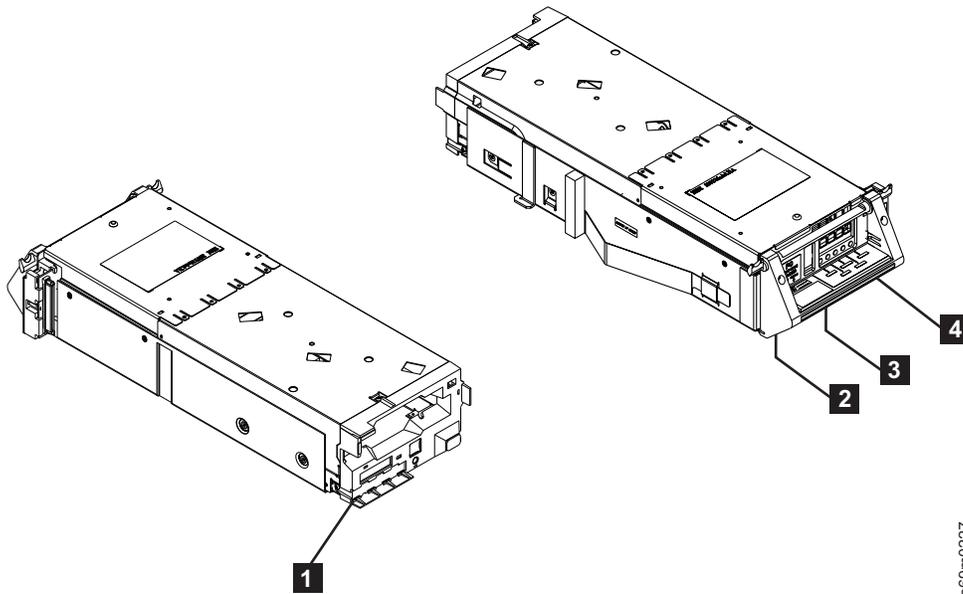

Figure 79. Removing or replacing a drive canister assembly - 3592 Fibre Channel hot swap
5. Refer to Figure 79. Unplug the fibre cable.
- If a logical library label (see **4** in Figure 79) is attached to the old drive, remove it from the old drive and attach it to the new drive.